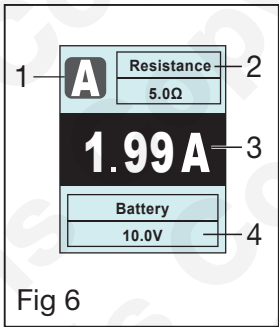

Fig 6
- 1. Press the MODE button (G) to switch function to DC current measurement (refer to Figure 6).
- 3. Refer to Figure 6: Read the current value (3), the resistance (2) and the battery value (4).
- 2. Refer to Figure 6: Read the current value (3) from the screen.